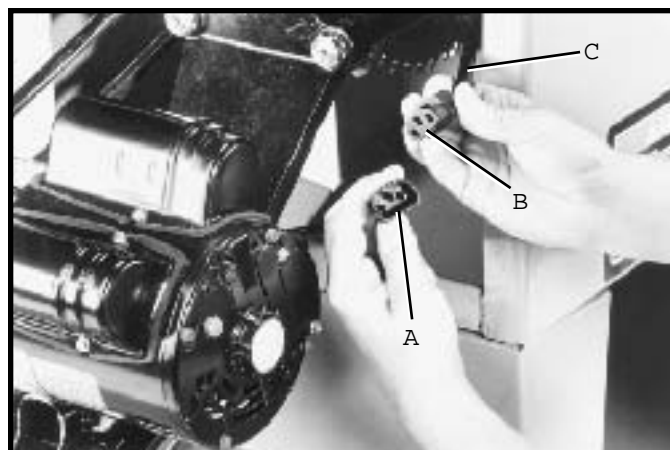

Fig. 23
1. Insert the pronged motor plug (A) Fig. 23, into the female receptacle (B) of switch-to-motor cord (C).